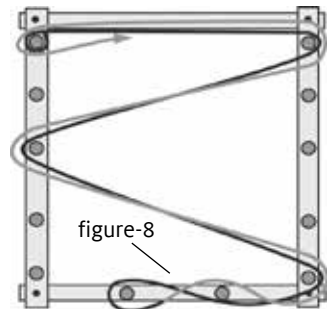

FIGURE 12: CONTINUE AND WIND THE WARP BACK IN THE REVERSE DIRECTION
2. Tie the end of the warp yarn to the starting peg. Follow the guide string until you reach the ending two pegs. Wind a figure-eight around these (figure 12). Make a cross (its purpose is to keep the warp ends in order). Wind back to the beginning peg. You have now measured two warp ends. Continue until the total number of warp ends are measured.